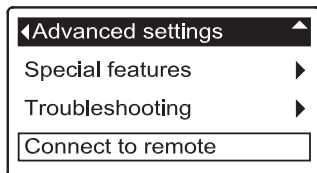
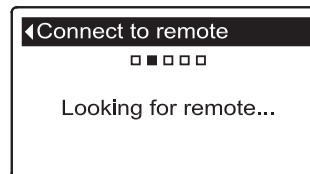
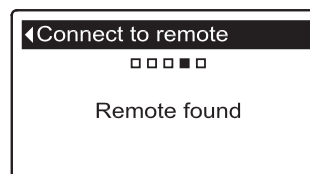

FIG. 18
FIG. 19
FIG. 20
4. Press the conditioner/refiner's SELECT (O) button to display the Advanced settings menu (See Figure 18).
9. Make sure the conditioner/refiner's display still shows the screen in Figure 18. Press the conditioner/refiner's SELECT (O) button to display the "Looking for remote" screen (See Figure 19).
10. Within a few seconds the screen should change to show "Remote found" (See Figure 20). If, after about one minute, the conditioner/refiner's screen instead reads "New remote not found," press the conditioner/refiner's SELECT (O) button to return to the screen in Figure 18 and press the remote's LEFT (◀) button to return to the screen in Figure 101. Then repeat this procedure from Step 8. If the remote is not found after several tries, contact your dealer for service. Take note of the message on the remote's screen after an unsuccessful attempt, as it indicates the nature of the problem.
11. Press the conditioner/refiner's SELECT (O) button. The display will go back to the Advanced settings menu (Figure 18).